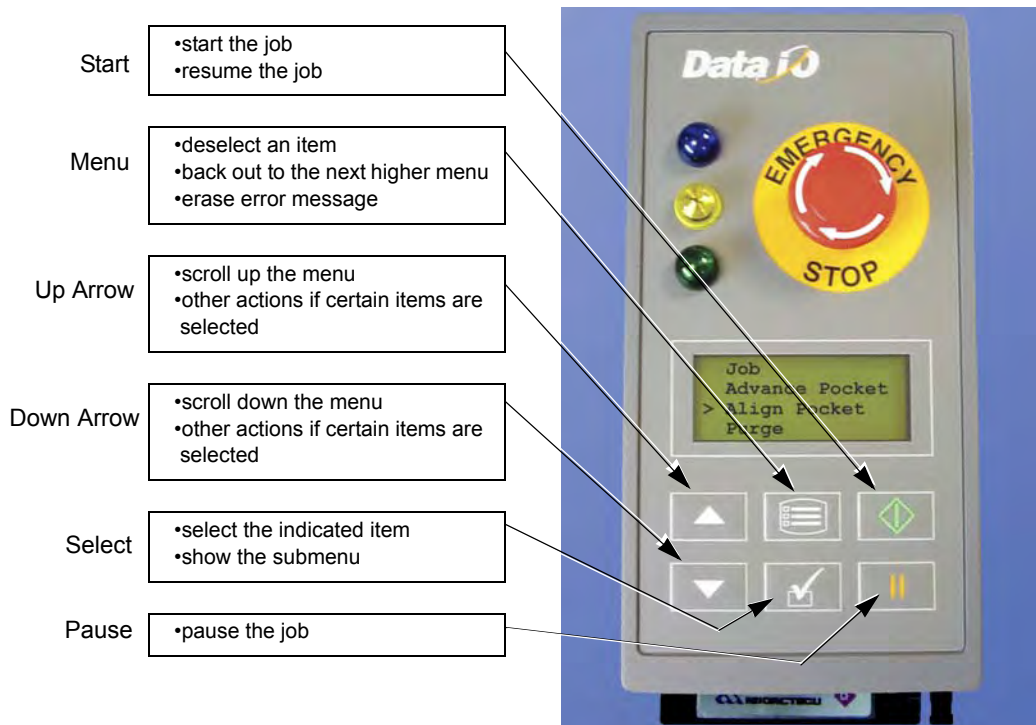

Figure 3-2—Keypad Layout
- With some functions, the way the *Up Arrow* and *Down Arrow* keys function will change while that item is selected. For example, when **Advance Pocket** is selected, the *Up Arrow* advances the device tape rather than scrolling the menu. See Figure 3-2.